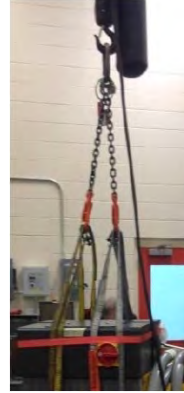

Figure 2-2 Straps and Lifting Device
2. Bring the straps up and above the UltraSync-E controller and attach them to the lifting device. Refer to Figure 2-2.